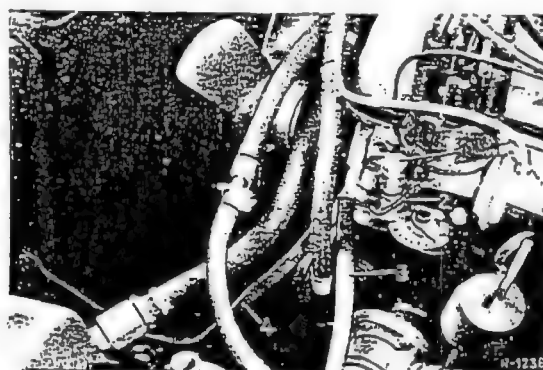

Fig. 82-20/5
16. 1 Ground strap Part No. 111 540 00 41 from the engine to the left radiator mounting (Fig. 82-20/5).